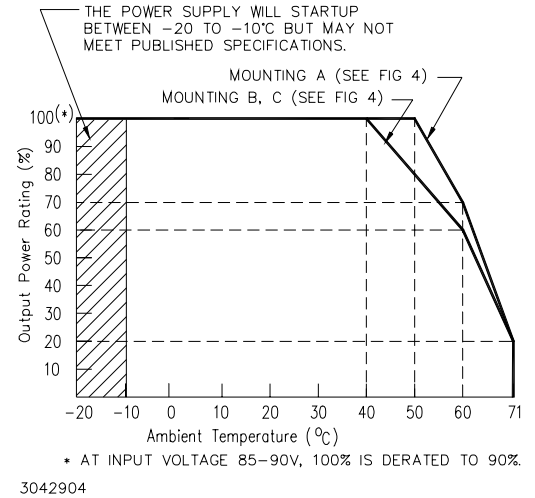

FIGURE 1. OUTPUT POWER VS. TEMPERATURE
(1) An overvoltage shuts down the output. Recover by recycling a-c input (30 second delay required before resetting).
(2) Square type. After the cause of overcurrent is removed, output voltage recovers automatically.
(3) See Figure 1 for temperature and input voltage rating.
(4) Bandwidth 100MHz. Ripple and noise will be approximately 1.5 times these values in the operating temperature range -10 ~ 0°C. The ripple and noise values tabulated are valid when the output is derated as shown in figure 1 from 40 ~ 71°C.
(5) Used for remote programming of output voltage. See Section IV OPERATION, REMOTE VOLTAGE PROGRAMMING.
OPERATING TEMPERATURE: -10 to 71°C (start up -20 to -10°C). See the derating, Figure 1. Do not allow the power supply to become dust covered because that will decrease the cooling efficiency of the unit and cause insulation to deteriorate.
MOUNTING THE POWER SUPPLY: Refer to Figures 4 and 5. The unit may be mounted on one mounting surface. Note the restrictions for maximum penetration of mounting screws. The air temperature surrounding the power supply must not exceed the ambient values given in the graph in Figure 1.
2. REFER TO FIGURE 1 FOR OUTPUT POWER VS. TEMPERATURE FOR MOUNTING METHOD SELECTED.